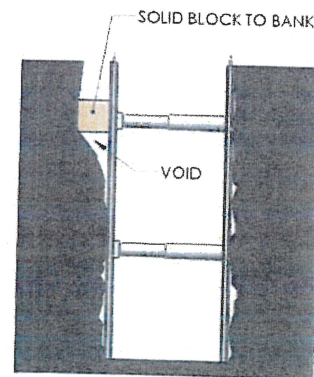

Figure 1: Voids in Excavation, See Note 5
5. Faces of excavations shall be vertical and there shall be contact with the soil at each cylinder, see **Figure 1**.